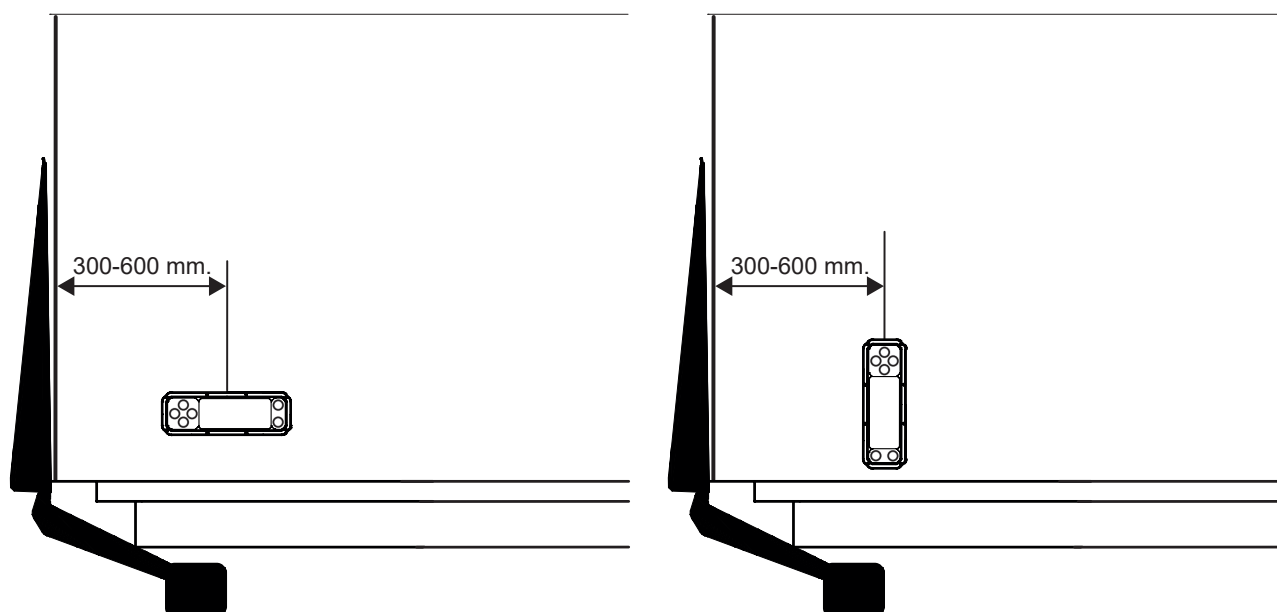

Figure 64. Installing controllers
5. Then install the controller securely on the body. See Figure 64